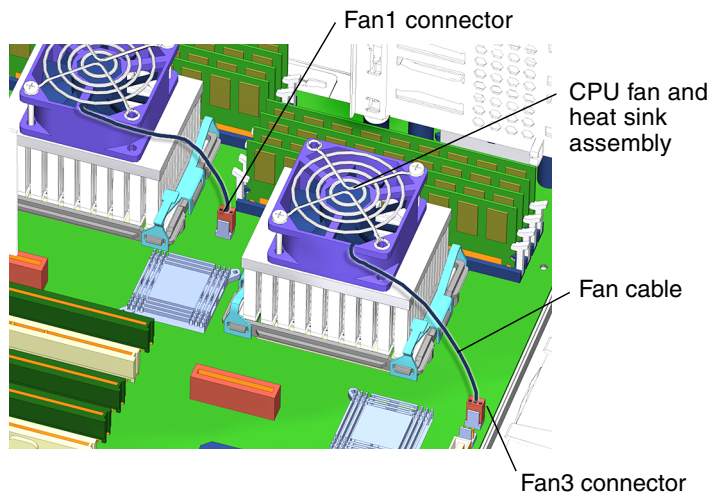

FIGURE 11-10 Disconnecting CPU Fan Cables
6. Disconnect the CPU fan and heat sink assembly fan cable from the motherboard (FIGURE 11-10).